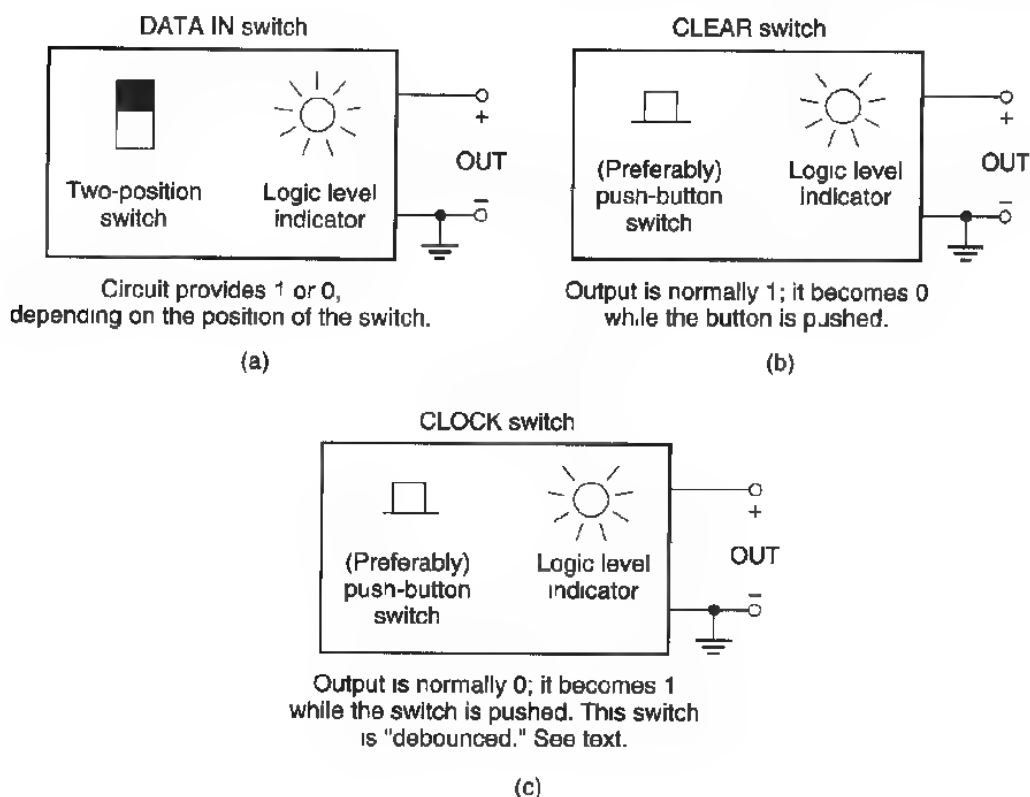

Fig. 1
1. **DATA IN switch:** When we need voltages that correspond to a logic 1 or 0, and when the device to which these are fed is *not* sensitive to the details of the *transition* between these two levels, we can use the *data in* switch shown in Fig. 1(a). Depending on the position of the switch, a logic 1 or 0 appears at its output and *stays* there until the switch position is changed. An LED logic level indicator should be connected to the switch output; this indicator will normally be available on your digital experimentation breadboard. Verify the operation of the circuit by flipping the switch back and forth and observing the indication of the LED.
2. **CLEAR switch:** The *clear* switch in Fig. 1(b) provides a signal that is normally a logic 1. When the push-button switch is pushed, the output becomes a logic 0. As soon as the switch is released, the output goes back to its normal logic 1. *If the switch*
3. **CLOCK switch:** The *clock* switch in Fig. 1(c) has an output that is normally 0 and becomes a "clean" 1 for as long as the switch is pressed.¹ If your *CLOCK* switch is a two-position one, maintain it at the logic 0 position; when you are asked to push (and release) the clock button in the description that follows, move the switch to the logic 1 position and then back to the logic 0 position. As before, an LED indicator should be connected to the output of the switch. Test the operation of this circuit.